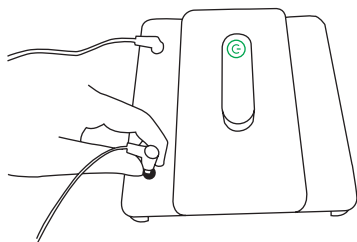
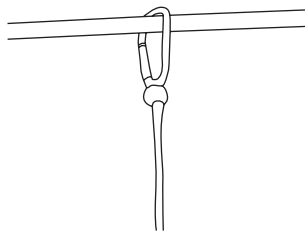

Figure 1
Figure 2
Before the robot starts a cleaning cycle, ensure that the safety tether (2) is attached. Insert the connector (3) into the robot and lock it in by turning it to the right (Figure 1). Fasten the karabiner (1) to a secure place to catch the robot in case of a fall (Figure 2).